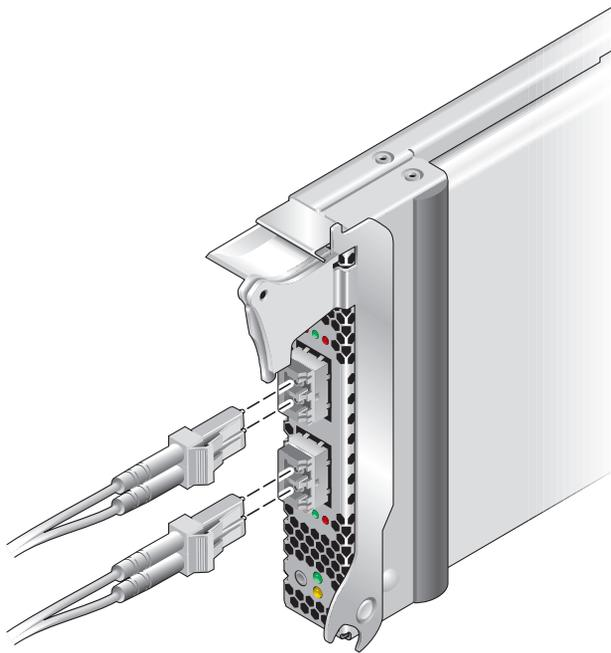

FIGURE 2-2 Attaching the Optical Cables
1. **Connect the fiber-optic cable to an LC connector on the HBA (see FIGURE 2-2).**